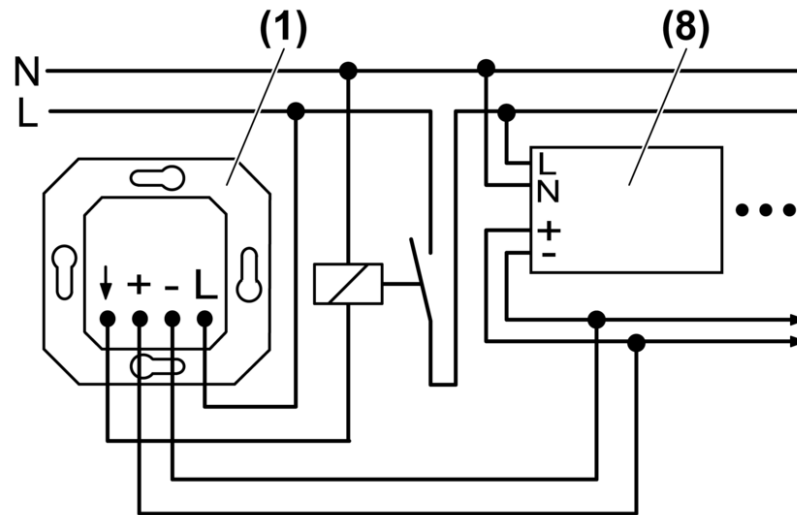
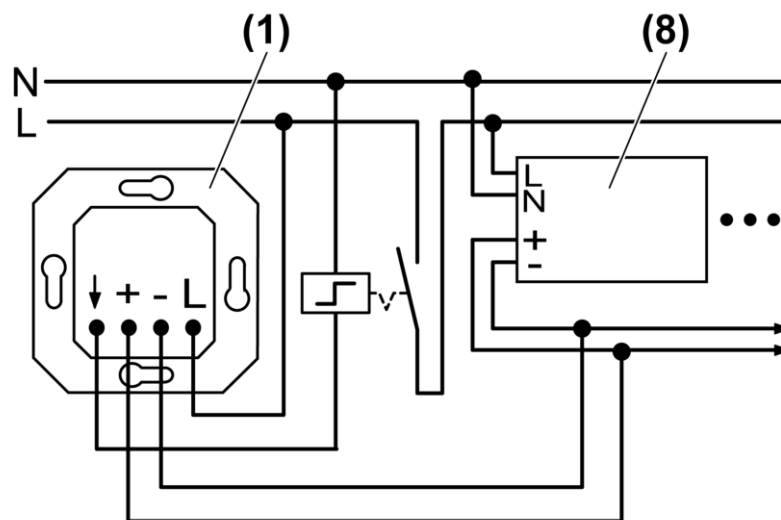

Figure 3: Connection diagram for potentiometer with switching function and contactor
Figure 4: Connection diagram for potentiometer with push-button function
- Connect electronic potentiometer with push-button function according to connection diagram (figure 3) or (figure 4).